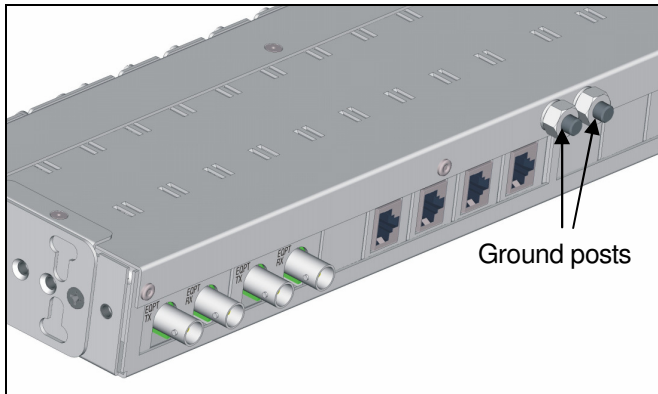

Figure 7. Chassis ground connector
- 1) Choose an appropriately sized ground lug to fit the dual ground posts on the rear of the chassis, shown in Figure 7. The studs are 1/4" diameter with 5/8" center-to-center spacing.